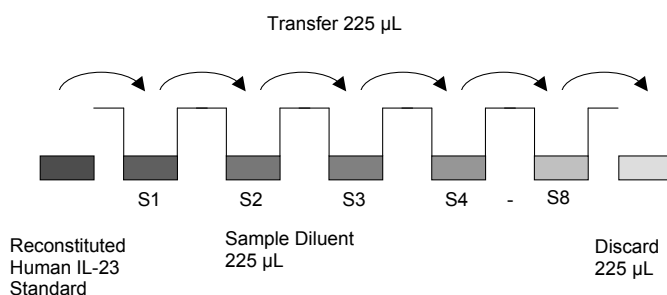

Fig. 7 Dilute standards - tubes.
5. Repeat serial dilutions 6 more times thus creating the points of the standard curve (see Figure 7).